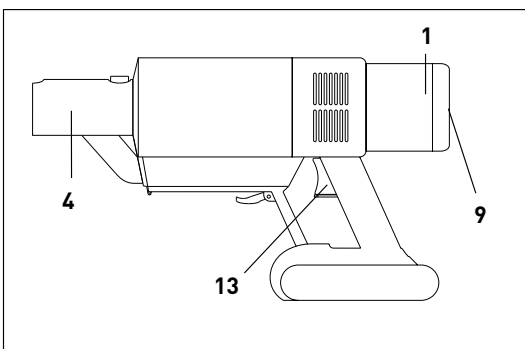
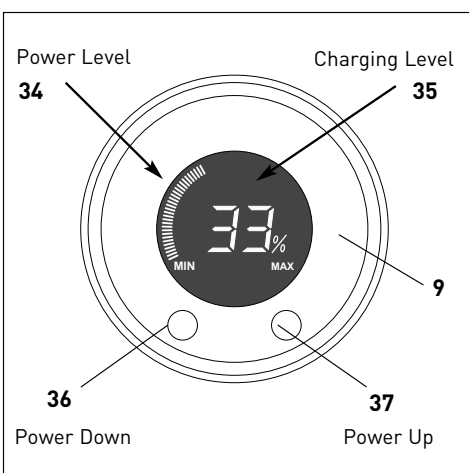

Figure 10
Figure 11
Starting The Machine - Figure 10 - After connecting the adapter and charging the battery (see page 6), the machine is ready for use. The on/off switch (13) turns the machine on. A short press of the switch is sufficient, you do not need to press it continuously.
Display and Power Control - Figure 11 - The battery level display and power control buttons are located at the rear of the Suction Unit (figure 10).